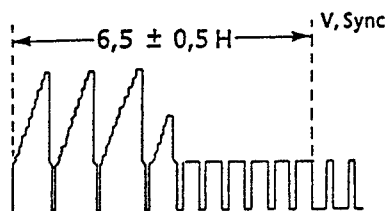

Figure 2-2.
3. Adjust R757 (phase generator MM control) so that the edge of the head switching pulse is $6.5H$ (Line) ahead of the vertical sync as shown in Figure 2-2.